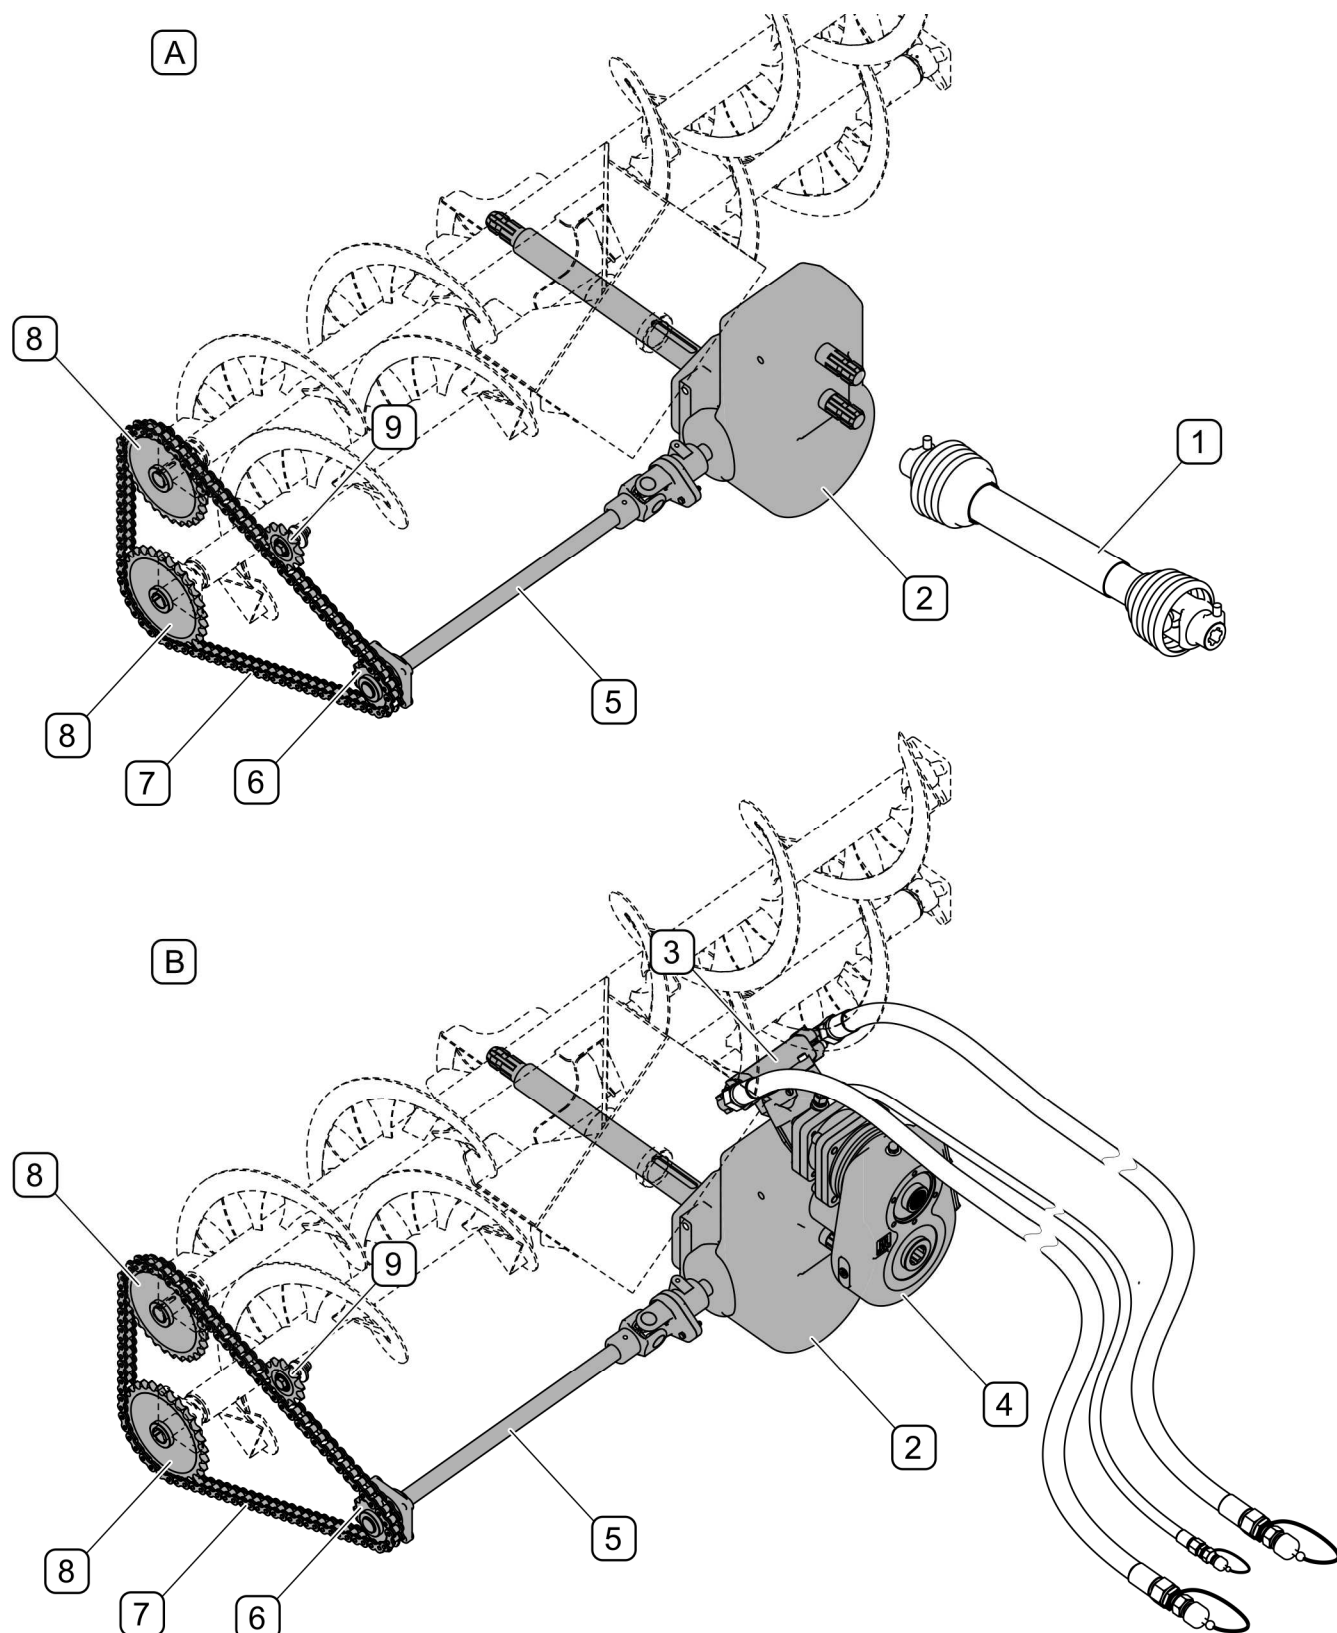

FIG. 3.3 Design of drive transmission system
In case of OW2.4M snow blower (A, FIG. 3.3), the drive is transmitted from the carrying vehicle's PTO shaft through PTO drive shaft (1) to main transmission (2). In case of OW2.4H snow blower (B, FIG. 3.3), main transmission (2) is driven by hydraulic motor (3) and reducer (4) supplied from the carrying vehicle's hydraulic system. Rotor is driven directly by transmission (2), whereas the augers are driven by PTO drive shaft and chain transmission consisting of a driving sprocket (6), chain (7), two driven sprockets (8) and tensioner (9).